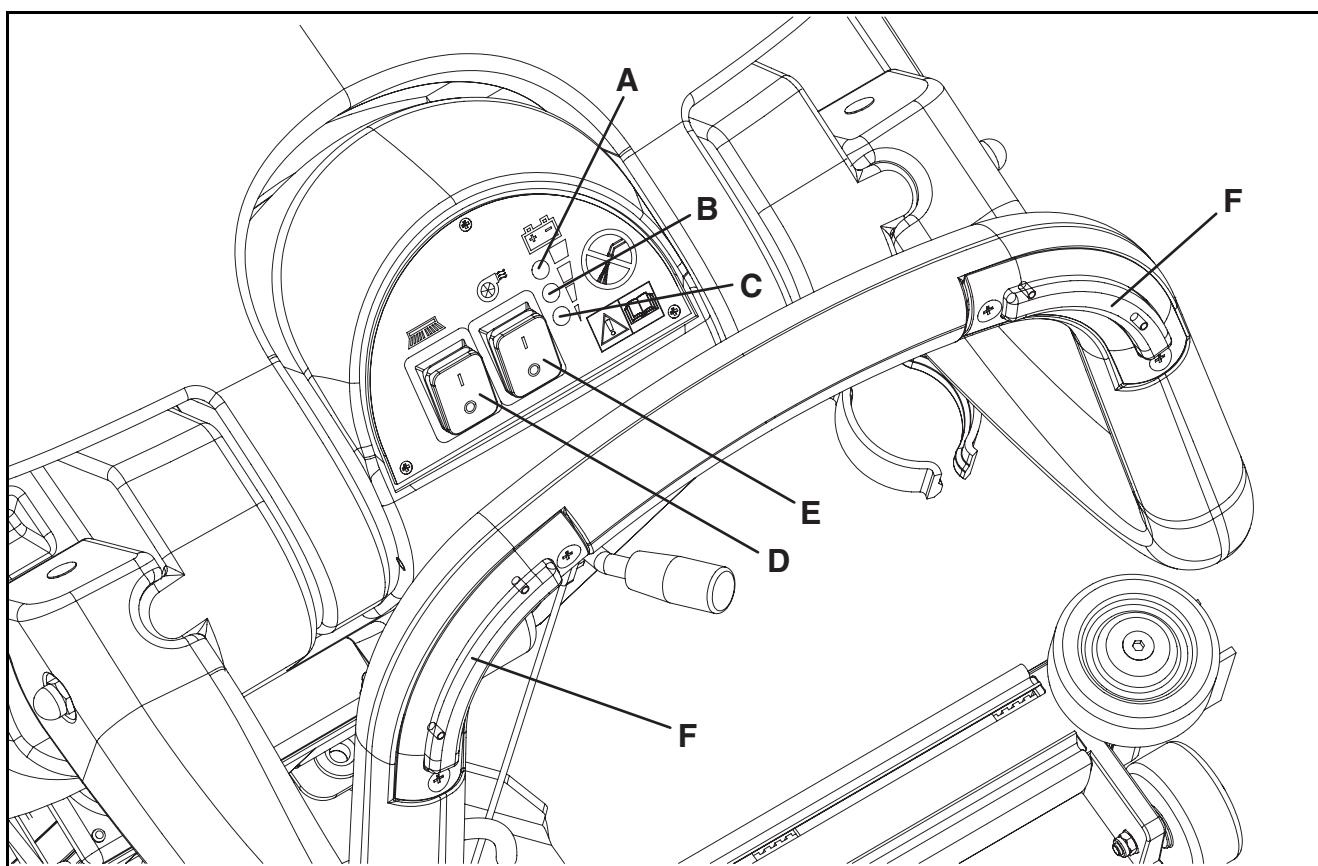

Figure 4
(See Fig. 4)
**Charged Battery Indicator Light (Green) (A, Fig. 4)**
**Half-discharged Battery Indicator Light (Yellow) (B, Fig. 4)**
**Discharged Battery Indicator Light (Red) (C, Fig. 4)**
**Brush/Pad Rotation Switch (D, Fig. 4)**
When it is turned to the "I" position, the machine is ready to start the brush/pad rotation. To start the brush/pad rotation, press and hold one or both the activation switches (F, Fig. 4).
**Water Vacuuming Switch (E, Fig. 4)**
**Activation Switches (F, Fig. 4)**
The switches are active only if the brush/pad rotation switch (D, Fig. 4) is turned to the "I" position.